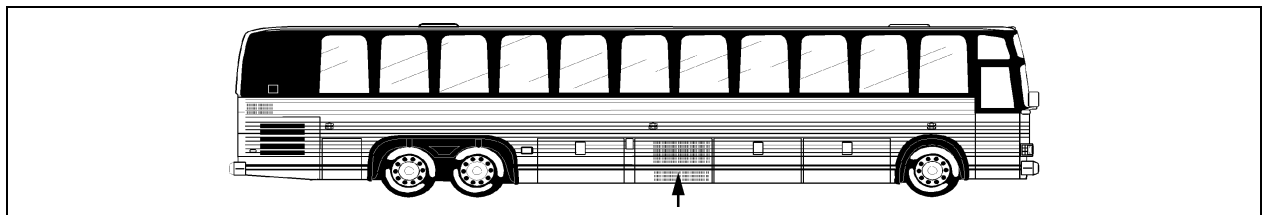

Figure 1: Typical location of the condenser compartment.
1. Open the condenser compartment (figure 1).